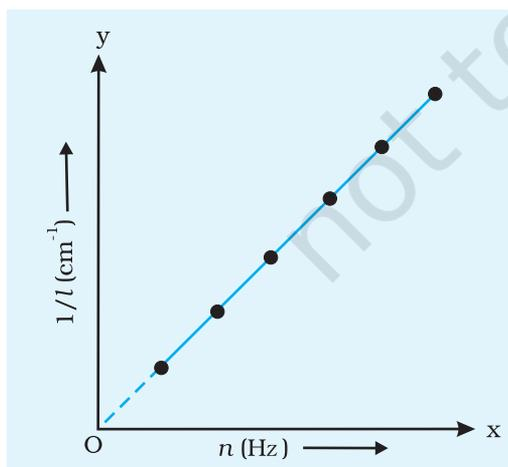

Fig. E 15.3: Variation of $1/l$ with n
6. After calculating frequency, n of each tuning fork, plot a graph between n and $1/l$ where l is the resonating length as shown in Fig. E 15.3.